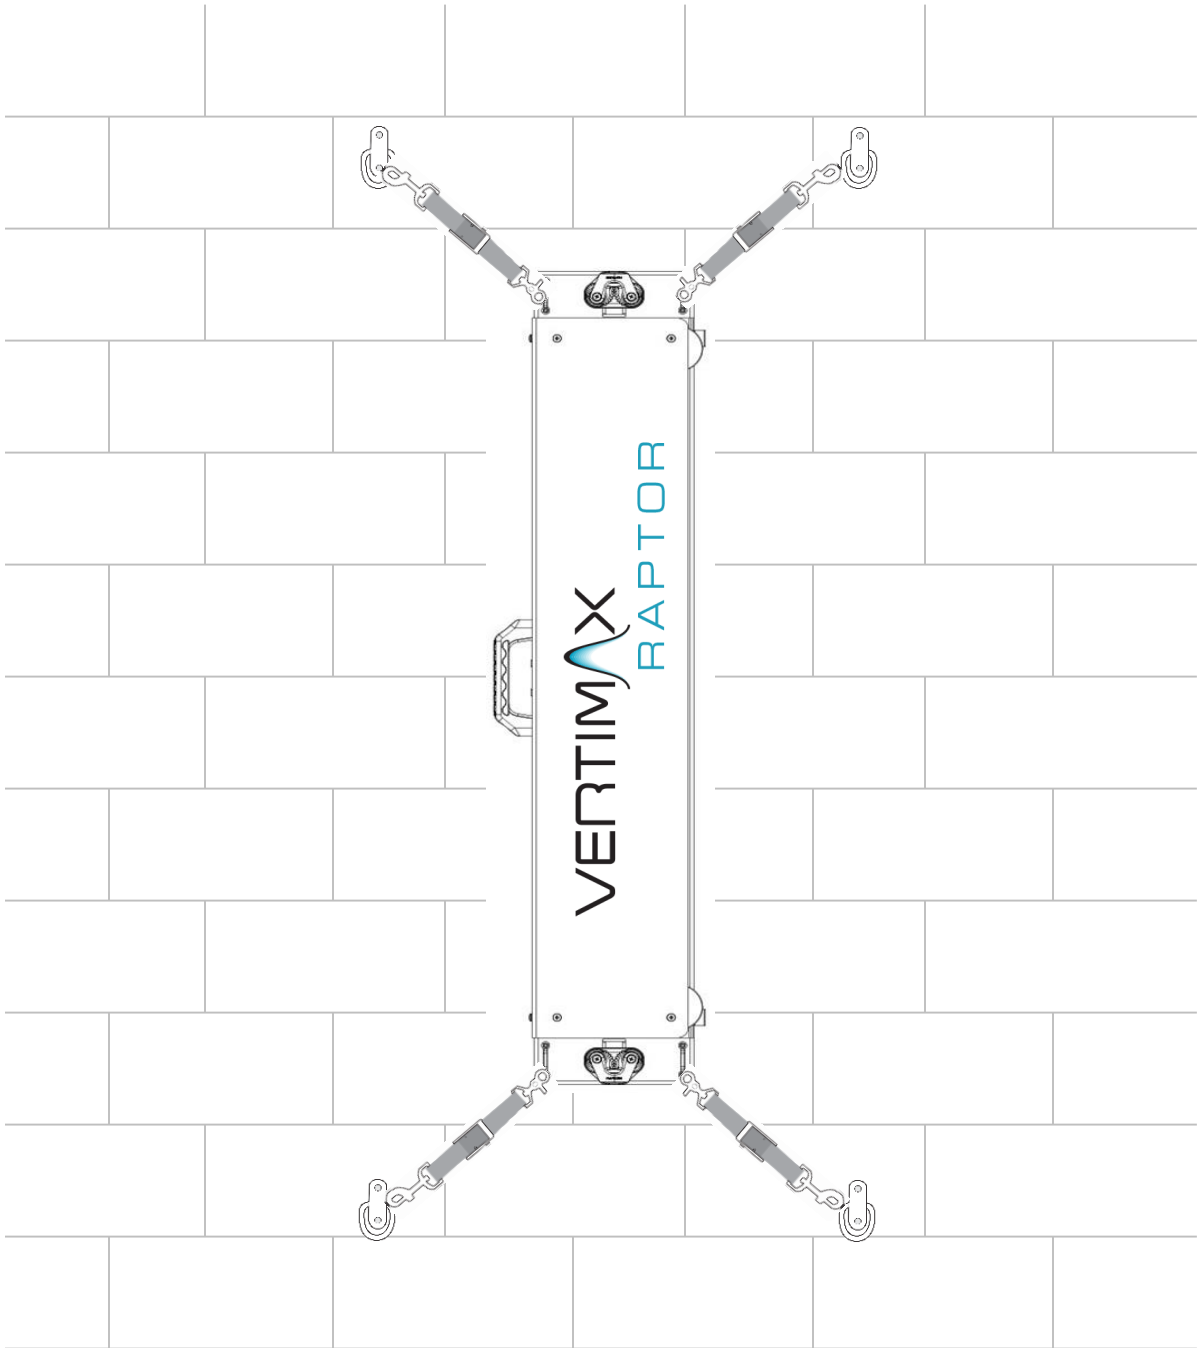
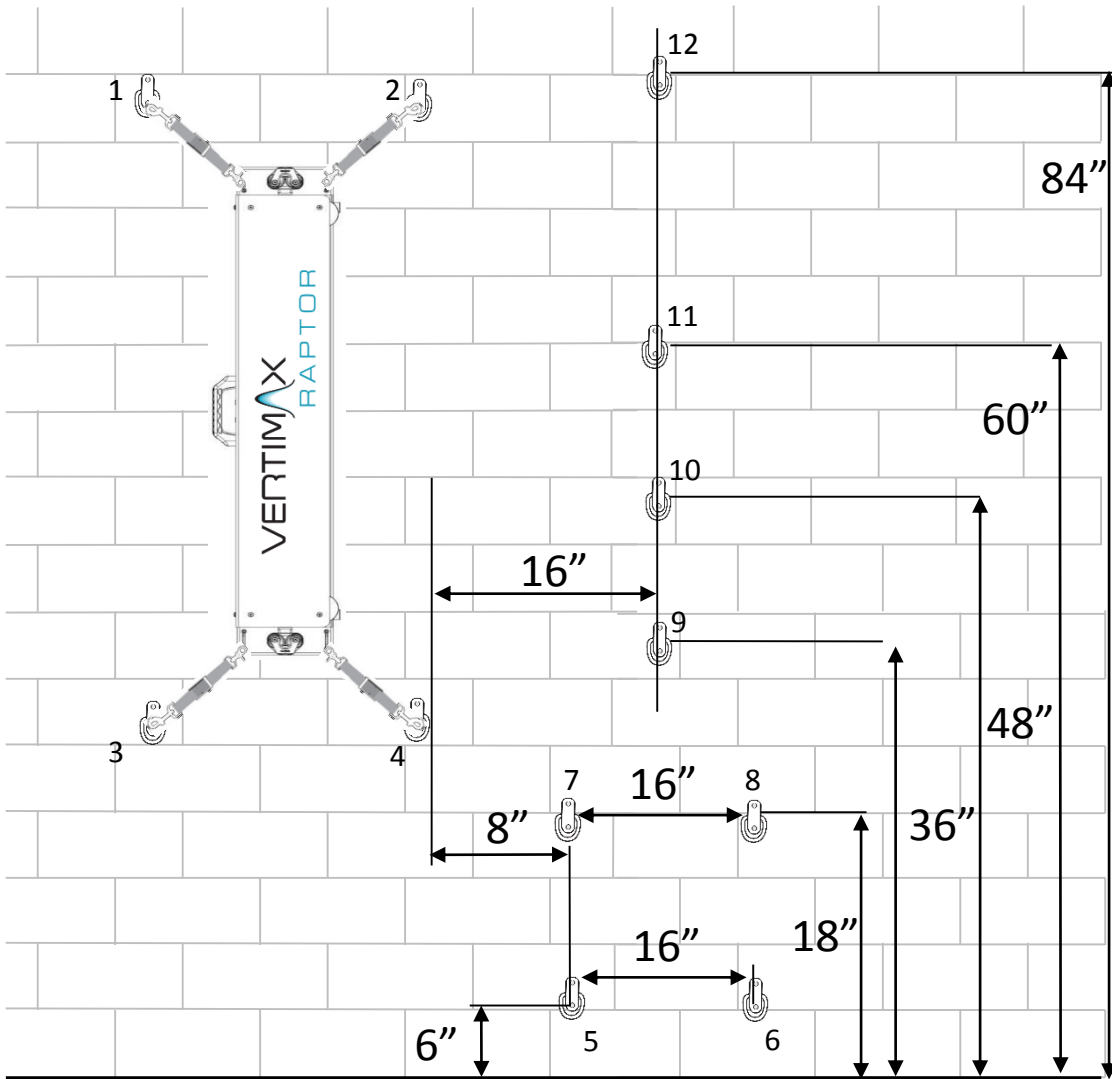
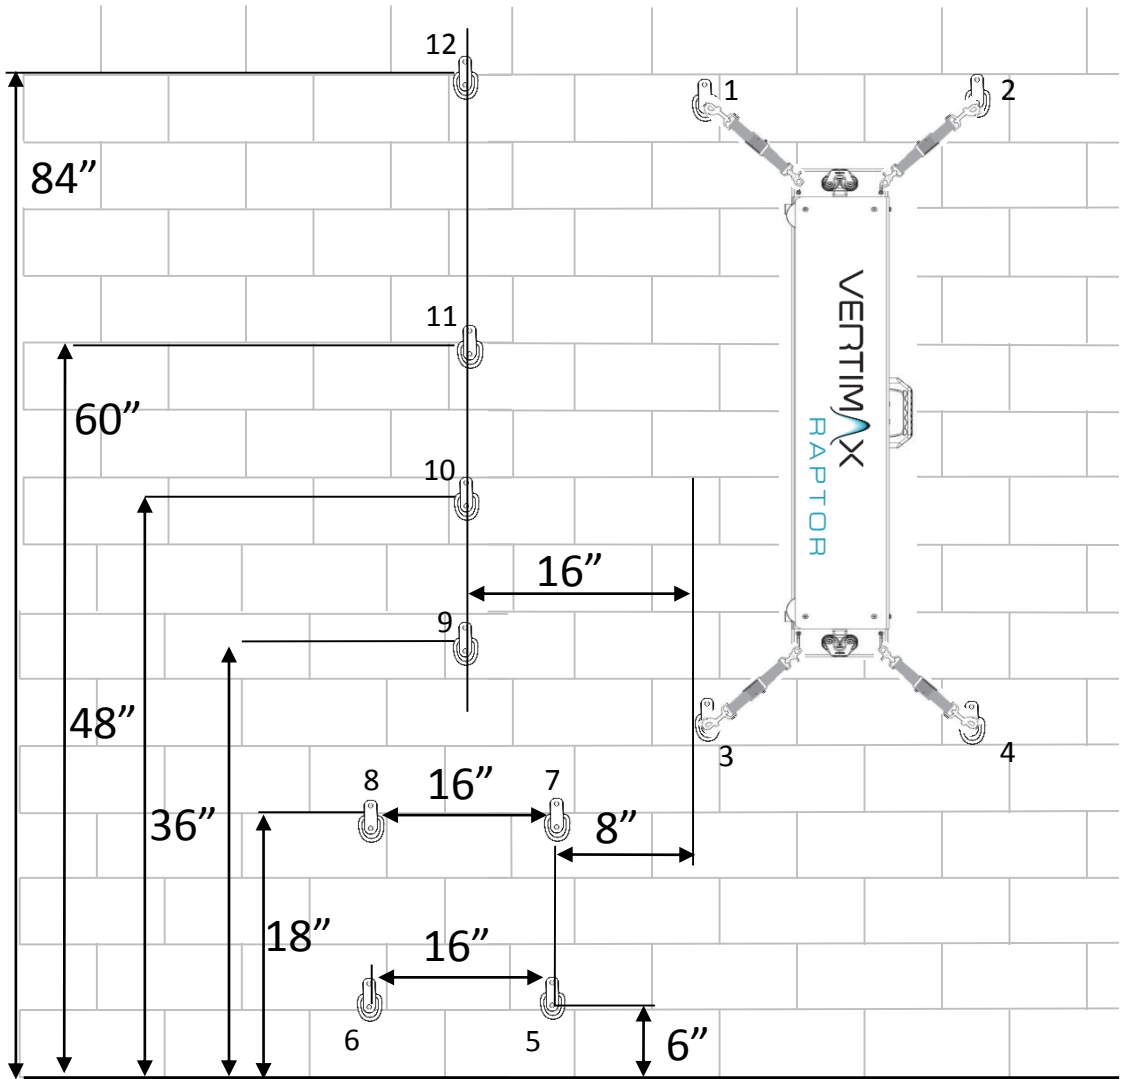

Figure 11
Figure 12
Figure 13
Step 7 – Use the four Raptor attachment straps to secure the Raptor to the wall as shown in Figure 11. Note that the Raptor can be rotated 180 degrees if desired (see Figure 13).
Step 8 – Repeat the previous steps 1-6 to mount the remaining 8 D-Rings to the wall. If you want to train on the right side of the vertical Raptor mount, reference Figure 12 for the measurements to place the remaining eight D-Rings (that will support the Raptor’s moveable pulley assemblies) to the right of the Raptor. If you want to train on the left side of the vertical Raptor mount, reference Figure 13 for the measurements to place the remaining eight D-Rings (that will support the Raptor’s moveable pulley assemblies) to the left of the Raptor.
Step 7 – Use the four Raptor attachment straps to secure the Raptor to the cement wall as shown in Figure 11.
Step 8 (Right Side Mount) – Using Figure 12 below, suggested locations for the remaining 8 D-Rings are diagramed for placement on the cement wall. D-Rings 5 & 6 and 7 & 8 are paired 16 inches apart at 6 inches and 18 inches respectively above the ground while D-Rings 9, 10 and 11 are placed 3, 4 and 5 feet respectively above the ground with D-Ring 12 placed 7 feet above the ground.
Step 8 (Left Side Mount) – Using Figure 13 below, suggested locations for the remaining 8 D-Rings are diagramed for placement on the cement wall. D-Rings 5 & 6 and 7 & 8 are paired 16 inches apart at 6 inches and 18 inches respectively above the ground while D-Rings 9, 10 and 11 are placed 3, 4 and 5 feet respectively above the ground with D-Ring 12 placed 7 feet above the ground.